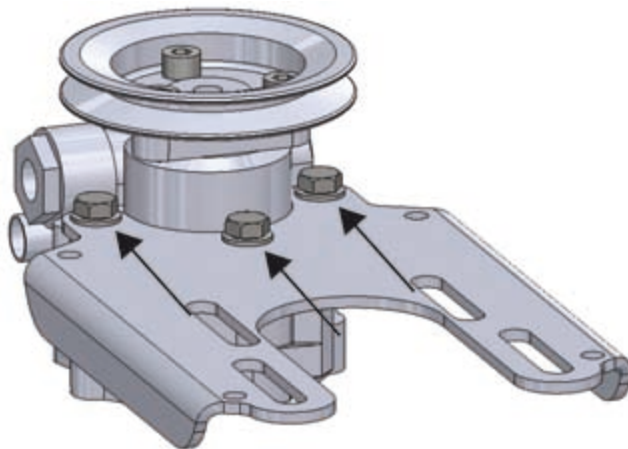

Figure 77. Hydraulic pump fastening screws
3. Remove the hydraulic pump from the rack by opening its three fastening screws (figure 77).
1. Mount the hydraulic pump in the rack using fastening screws (figure 77).